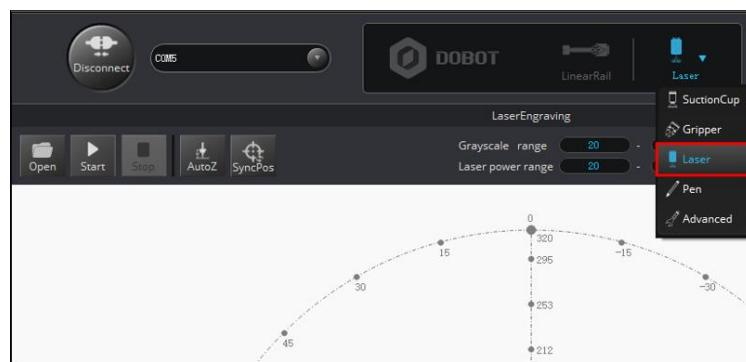

Figure 5.94 Choose Laser as the end-effector
**Step 1** Choose **Laser** as the end-effector on the **LaserEngraving** page, as shown in Figure 5.94.